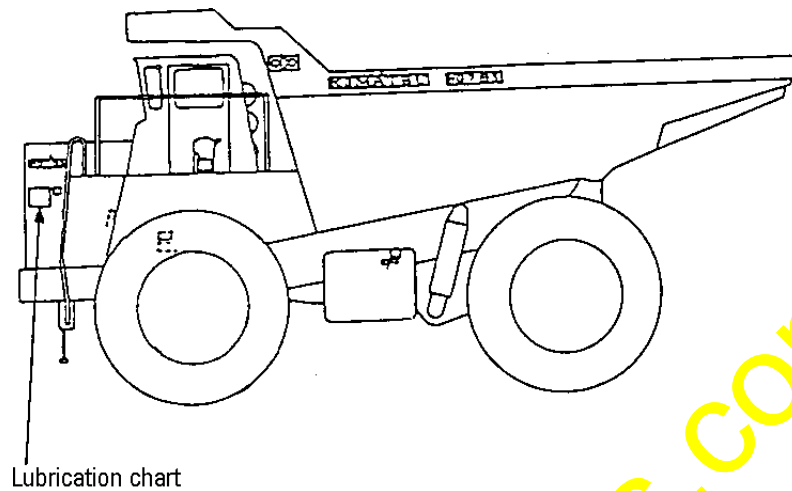

Fig. 30
Replace the existing LUBRICATION CHART (561-93-41111) with the newly supplied LUBRICATION CHART (561-93-45110) (1). (See Fig. 30)